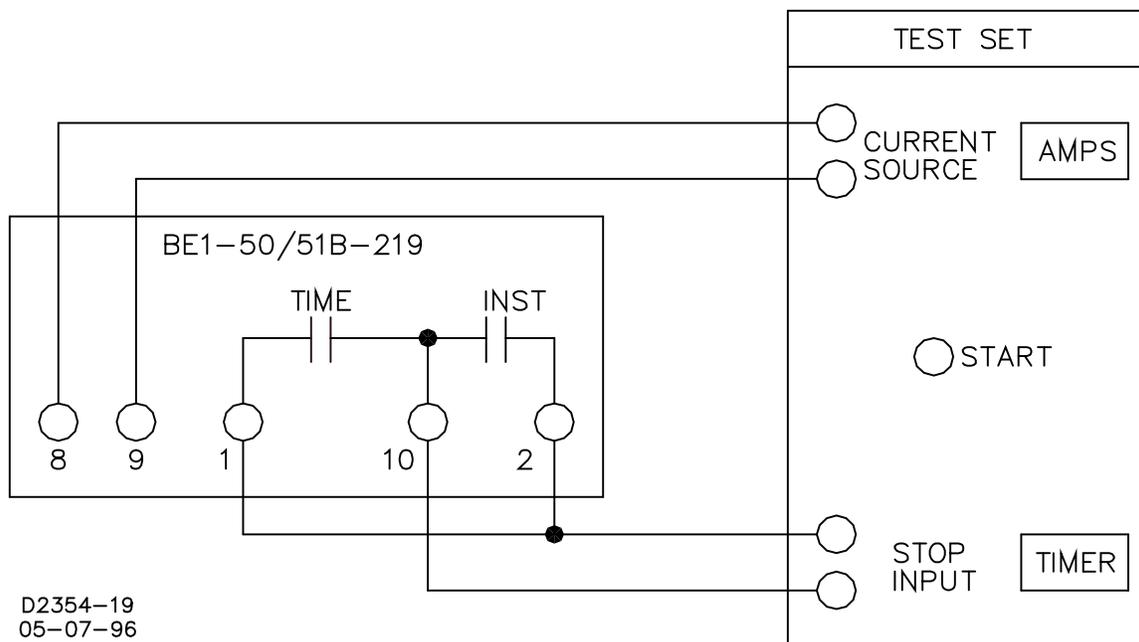

Figure 5-1. Pickup and Timing Test Setup
- Connect test setup as shown in Figure 5-1.